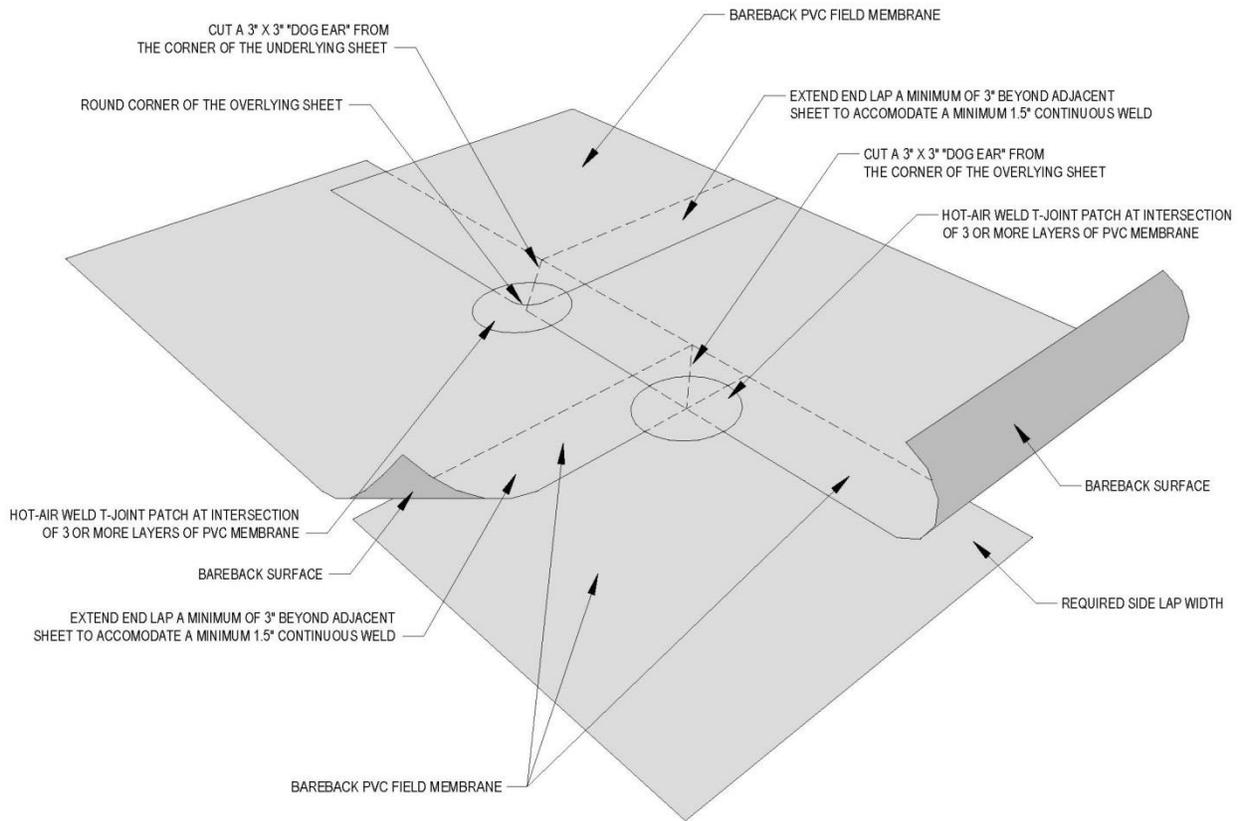

Figure 4.1a Bare PVC Field Membrane Side And End Laps
- At end-laps of bare PVC, dog-ear and round all corners. Extend the end-lap a minimum of 3 in beyond the adjacent roll. Refer to Figure 4.1a.